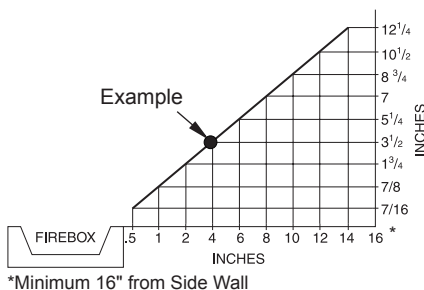

Figure 4 - Minimum Clearance for Combustible to Wall
- where curtains, furniture, clothing or other flammable objects are less than 36" from the front and 42" from top heater, For side clearances see Figure 4 page 10
- A. Clearances from the side of the fireplace cabinet to any combustible material and wall should follow diagram in Figure 4.
Example: The face of a mantel, bookshelf, etc. is made of combustible material and protrudes 3 1/2" from the wall. This combustible material must be 4" from the side of the fireplace cabinet (see Figure 4).